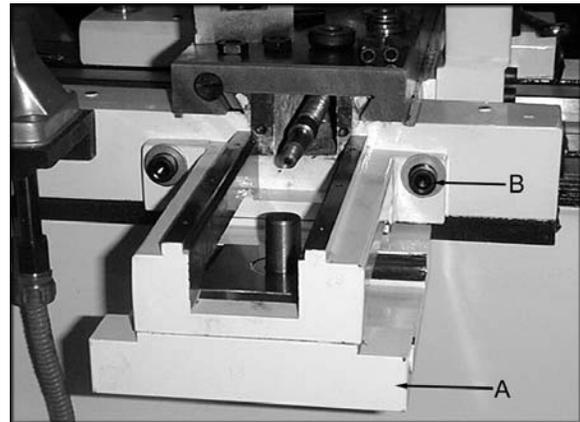

Figure 2
10. Attach the main body (A, Figure 2) to the carriage with two M8 x 30 hex socket cap screws, and two M8 flat washers (B, Figure 2). Tighten the hex cap screws to hold the main body in place but loose enough to allow adjustment with a dead blow hammer, or rubber mallet.